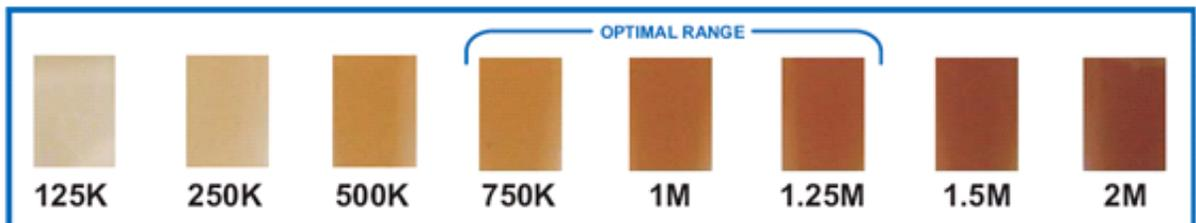
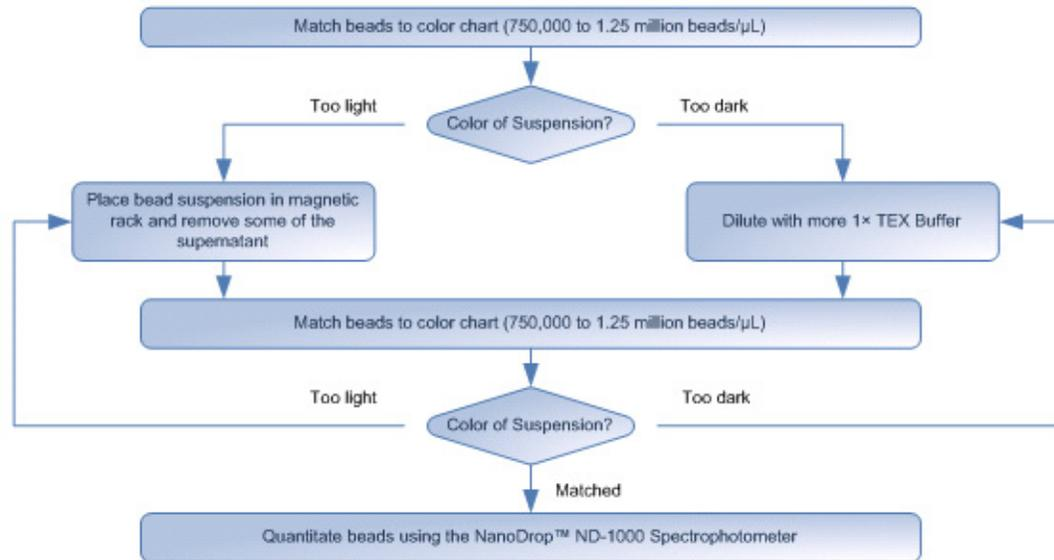

Figure 31 The SOLiD™ Bead Concentration Chart. For best results, use the SOLiD™ Bead Concentration Chart (PN 4415131), supplied separately.
Figure 32 The SOLiD™ Bead Concentration Chart workflow.
3. Use the SOLiD™ Bead Concentration Chart (Applied Biosystems PN 4415131) to estimate the bead concentration of the beads (see Figure 31).
4. Adjust the volume of beads so that the color of the bead solution matches a color in the optimal range (750,000 beads/ μL to 1.25 million beads/ μL ; see Figure 31 and Figure 32 on page 54).